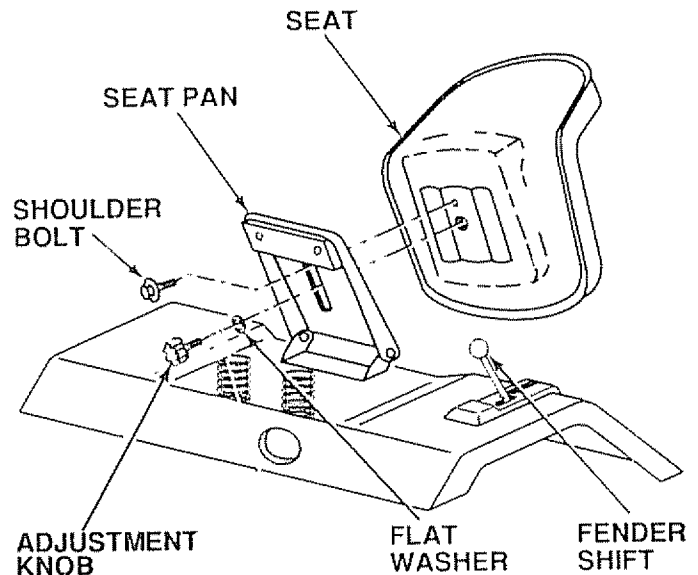

FIGURE 2
- b. Place seat on seat pan. Screw adjustment knob and flat washer into seat (Fig. 2) Screw shoulder bolt into seat (Fig. 2). Adjustment knob, shoulder bolt and washer found in bag of parts.